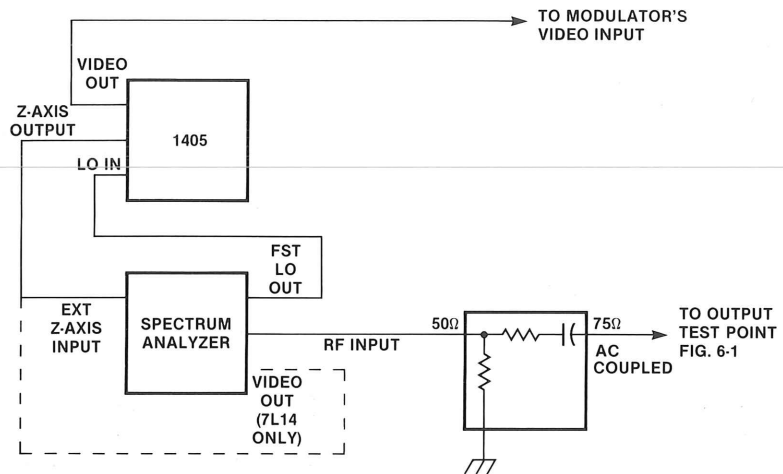

Figure 6-7. Equipment connection for testing modulators using the 1405.
1. Connect the test set up shown in figure 6-7.